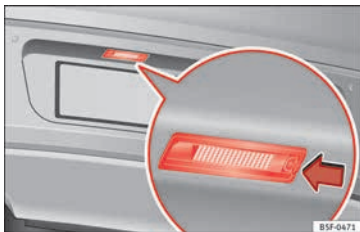

Fig. 121 In the rear bumper: number plate light.
1. Press the number plate light in the direction of the arrow » **Fig. 121**.